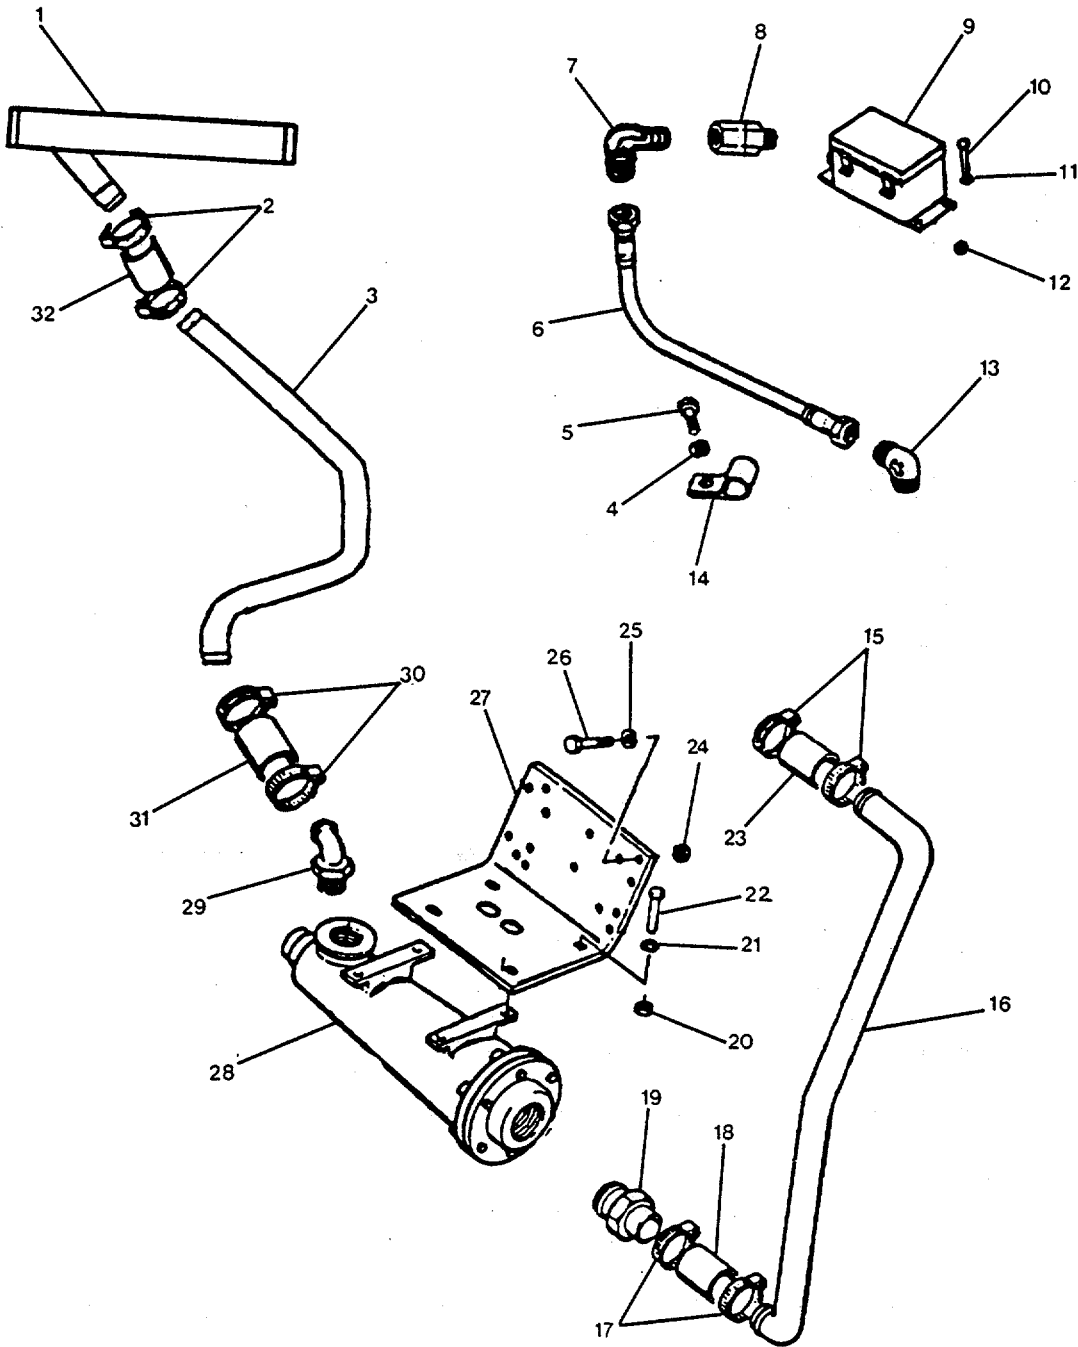

FIGURE 2-19. Coolant Heater Group.
- a. Loosen hose clamps (15 and 17, Figure 2-19) and disconnect nonmetallic hoses (18 and 23) from straight pipe-to-hose adapter (19) and engine.
- b. Remove nonmetallic hoses (18 and 23) and heater tube (16).
- c. Loosen hose clamps (2) and disconnect preformed hose (32) from water transfer tube (1).
- d. Loosen hose clamps (30) and disconnect preformed hose (31) from pipe-to-tube elbow (29).
- e. Remove preformed hoses (31 and 32) with bent metallic tube (3).
- f. Remove hexagon capscrew (5), lockwasher (4), and remove loop clamp (14) from nonmetallic hose assembly (6).